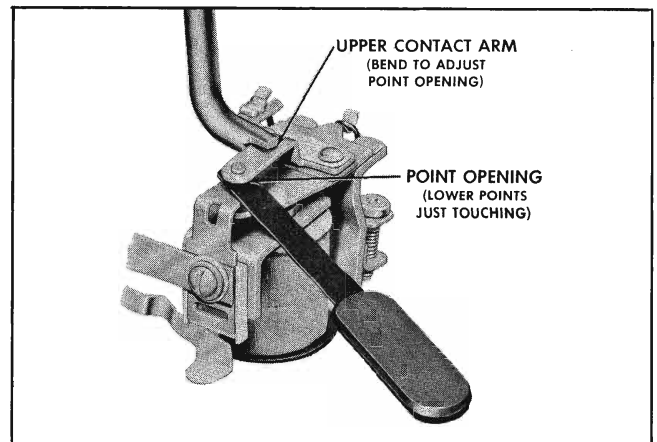

Fig. 11-36 Point Opening Adjustment
1. Push armature down until the lower set of contacts are just touching, measure point opening between upper set of contacts (Fig. 11-36). Point opening should be .016".